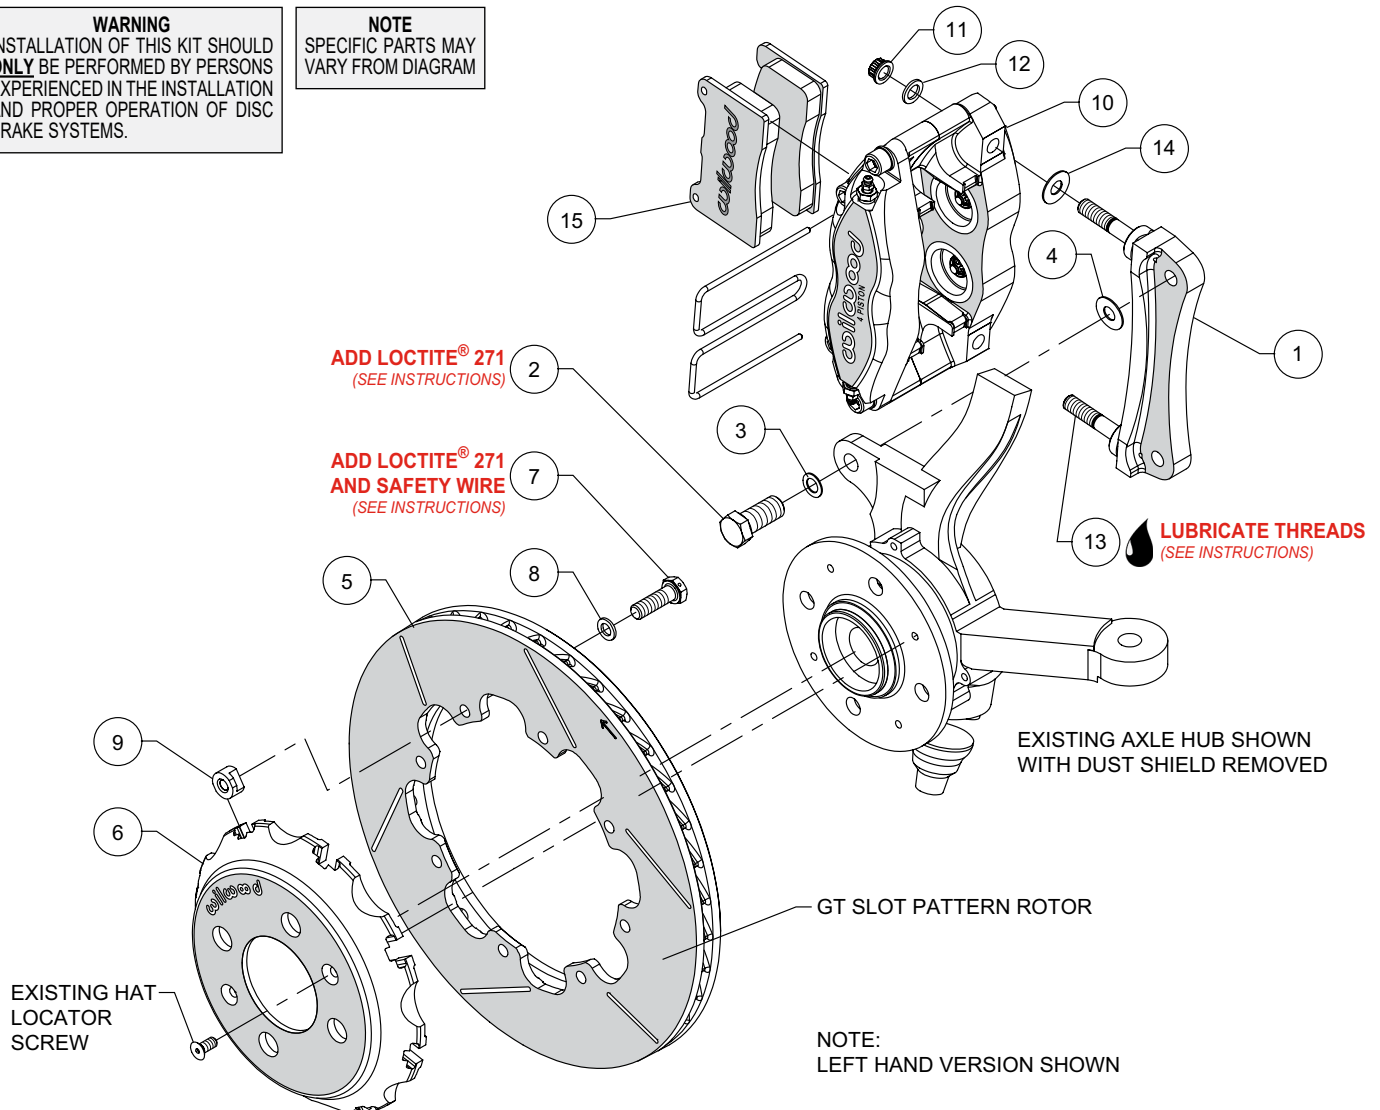
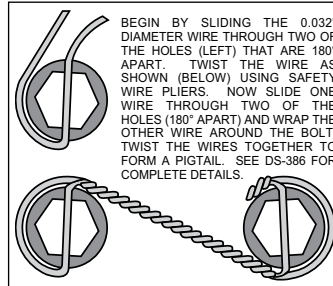

Figure 1. Typical Installation Configuration
Figure 3. Safety Wire Diagram
NOTE: Numbers in parenthesis refer to the parts list and Figure 1 on the preceding pages.
- The caliper mount bracket (1) should initially be installed with clean, dry threads on the mounting bolts. Orient the bracket, as shown in Figure 1 and Photo 1, and install using bolts (2) and washers (3). Initially place one .033" thick shim (4) on each bolt between the bracket and upright, Figure 1. Temporarily tighten the mounting bolts. **NOTE:** The bracket must fit squarely against the mount bosses on the upright. Inspect for interference from casting irregularities, machining ridges, burrs, etc. Later, after the caliper alignment has been checked, the mount bolts will be secured using red *Loctite*® 271.
- Orient the rotor (5) and the hat (6) as shown in Figure 1 and Photo 3. Attach rotor to hat using bolts (7), washers (8), and t-nuts (9). Follow additional instructions included with the bolt kit. Apply red *Loctite*® 271 to the bolt threads and torque to 220 in-lbs using a criss-cross pattern. Safety wire bolts using standard 0.032 inch diameter stainless steel safety wire as shown in Figure 3. Please refer to Wilwood's data sheet DS-386 (available at www.wilwood.com/Pdf/DataSheets/ds386.pdf) for complete safety wire installation instructions.
- Lubricate the caliper mounting studs (13) with lightweight oil. Initially place one .035" thick shim (14) on each stud as shown in Figure 1 and Photo 4. Mount the caliper (10) onto the bracket (1) using lock nuts (11) and washers (12), Figure 1. Temporarily tighten the lock nuts and view the rotor through the top opening of the caliper. The rotor should be centered in the caliper, Photo 5. If not, adjust by adding or subtracting shims (4) between the bracket and the mounting bosses. Once the caliper alignment is correct, remove the bracket mounting bolts (2) one at a time, apply red *Loctite*® 271 to the threads, and torque to 60 ft-lbs.
- Insert the brake pads (15) into the caliper with the friction material facing the rotor (5), as shown in Figure 1 and Photo 6. Check that the top of the brake pad is flush with the outside diameter of the rotor, Photo 7. If not, adjust by adding or subtracting shims (14) between the caliper and the bracket. After the caliper pad height is set, torque the caliper lock nuts (11) to 30 ft-lb. Secure the pads in place using the pad clip retainer, Photo 8.